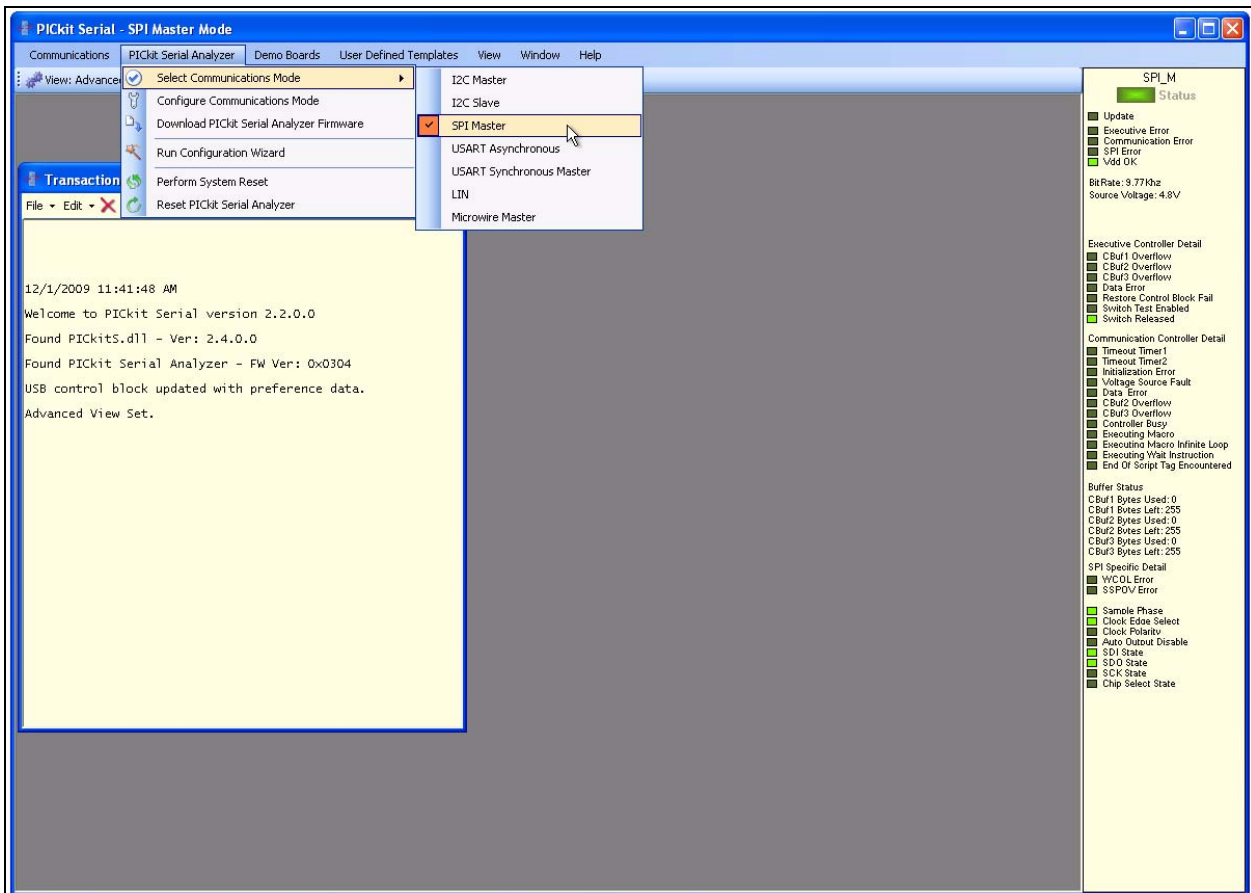

FIGURE 2-5: PICkit Serial Selecting Communications Mode.
We need to select the PICkit Serial Analyzer GUI to be in SPI Master mode. Figure 2-5 shows how to select the proper mode. Select *PICkit Serial Analyzer* -> *Select Communications Mode* -> *SPI Master* menu item (make sure the SPI Master item is checked).
5. Ensure the GUI is in Master SPI communication mode (see Figure 2-5).